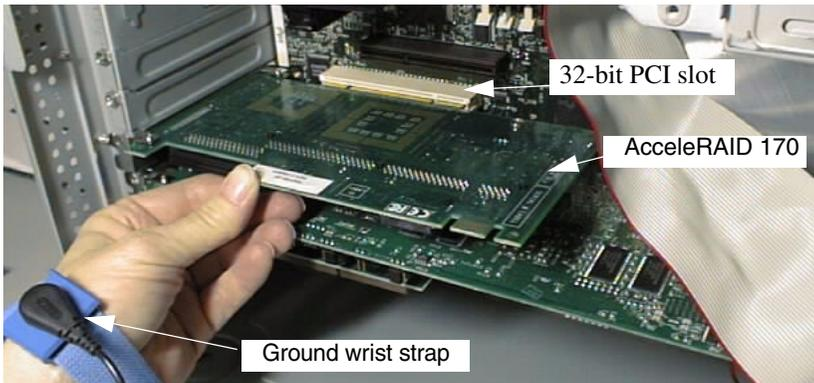

Figure 2-7. Plug the Controller Board into any 32-bit or 64-bit PCI Slot
4. Plug (install) the controller board firmly into any 32-bit or 64-bit PCI slot as shown in Figure 2-7.